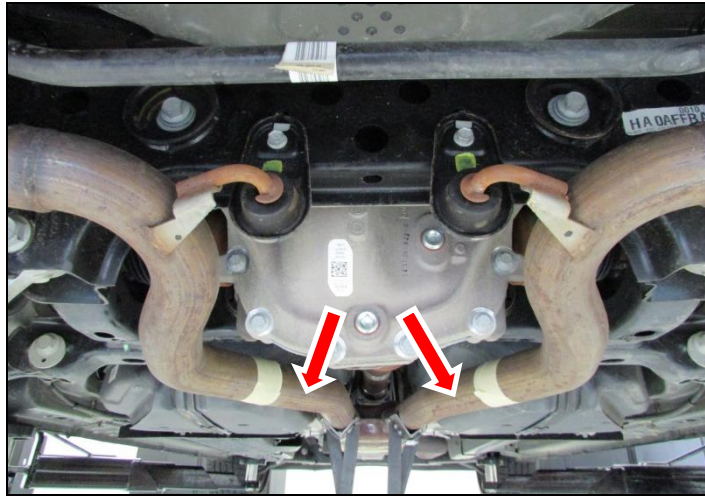

Figure 1
3. From under the vehicle, refer to the photo and locate this area of the OE mid pipe. This section of the OE mid pipe is about to the end of the rear of the gas tank (**Figure 1**).